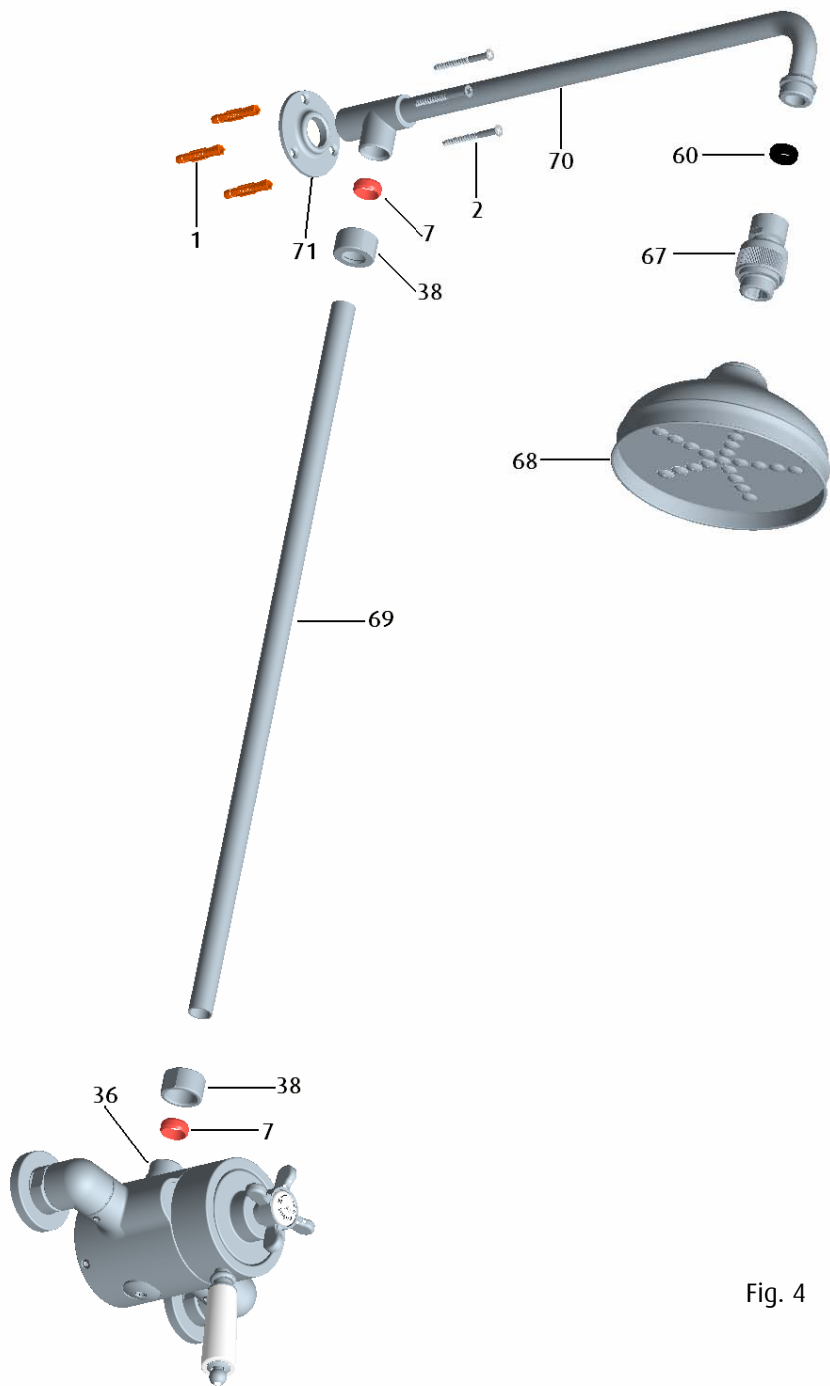

Fig. 4
4.7 Rigid Riser Installation (See Fig. 4)